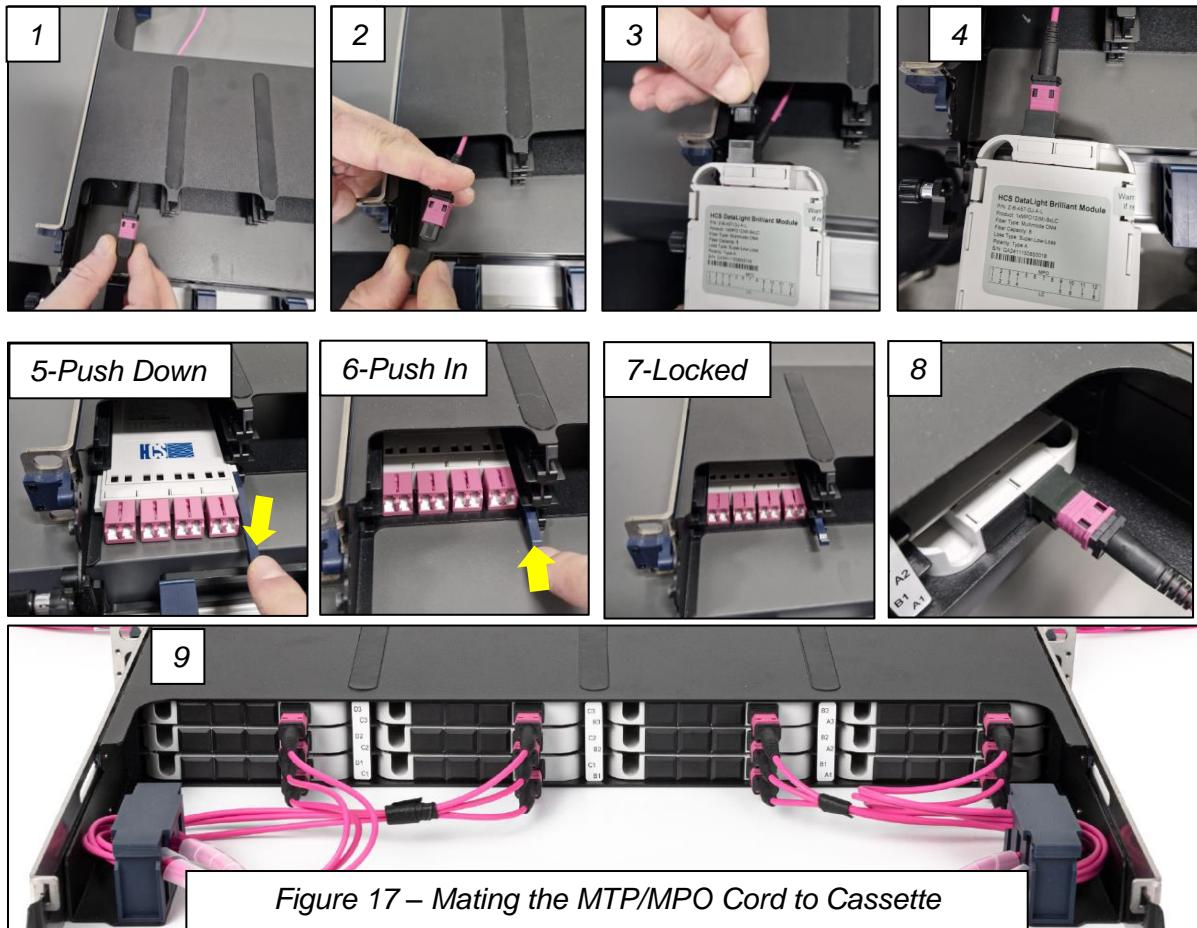

Figure 17 – Mating the MTP/MPO Cord to Cassette
Step 6: Mate the MPO connector(s) into the adapter(s) at the back of the cassette (Figure 17).
Step 7: Starting with the lower left corner (bottom panel, slot A1), as seen from the front, insert the cassette from the front until it locks into place (Figure 17).